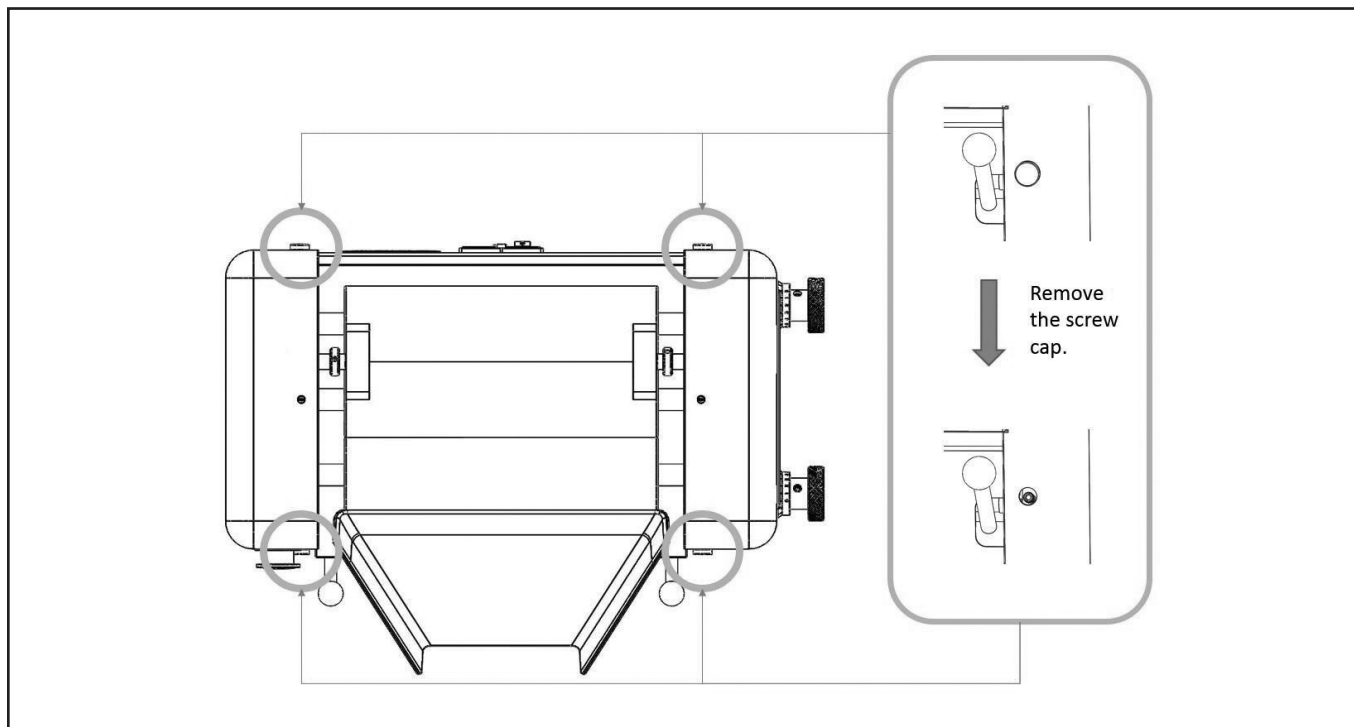
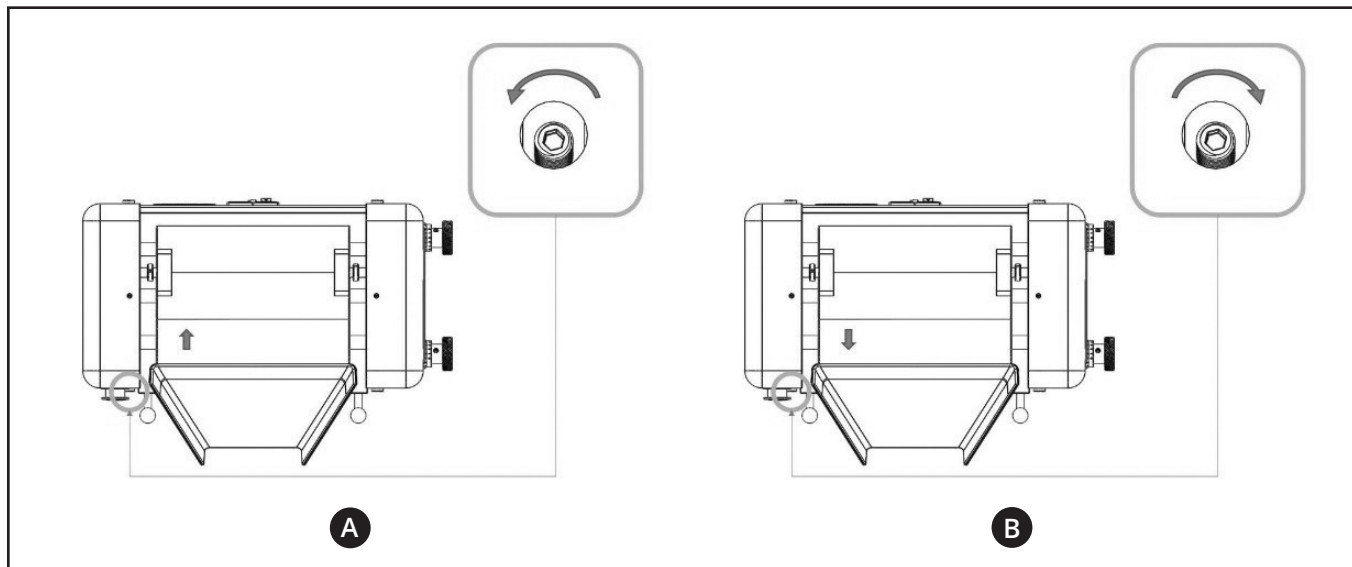
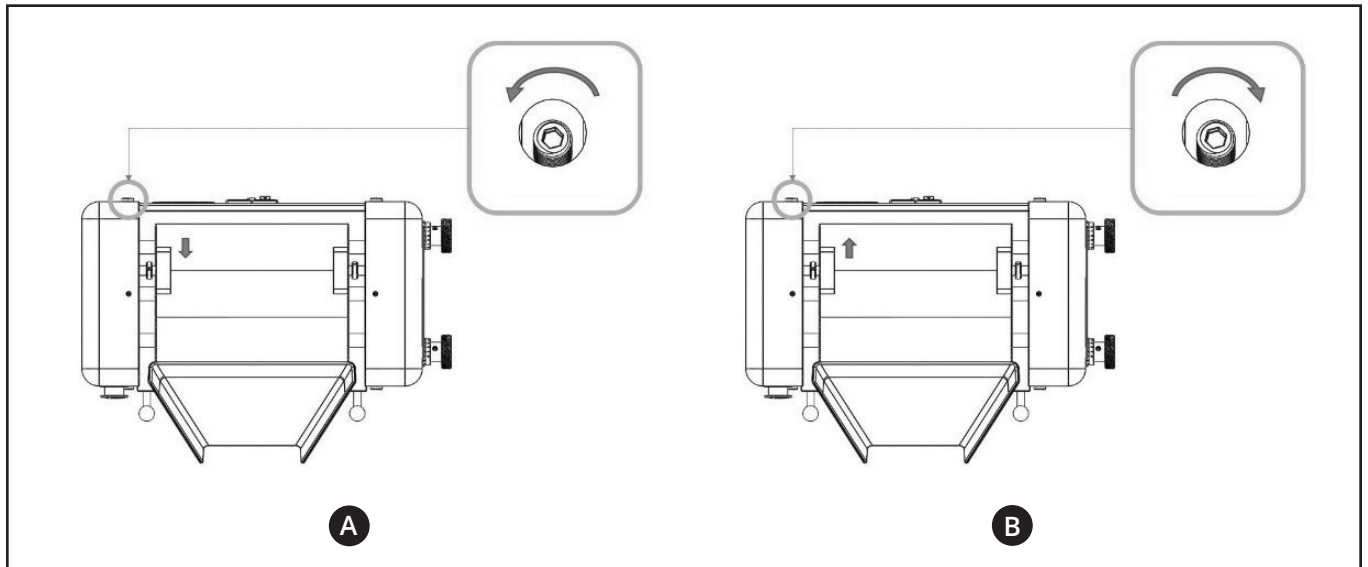

FIGURE 8 : Removing the Screw Caps for Calibration
FIGURE 9 : Left Front Gap Calibration. A) Decrease gap size
FIGURE 11 : Left Rear Gap Calibration.    A) Decrease gap size
4. Use the hex key provided to calibrate the roller gap setting. There are two holes covered by white screw caps on either side of the casing, front and rear, where you can insert the hex key (*see figure 8*). The two holes at the front of the mill are for calibrating the front gap (*see figure 9 and 10*), and the two holes at the rear of the mill are for calibrating the rear gap. Remove the screw caps with a screw driver. Turning the hex key clockwise will widen the gap. Turning the hex key counter-clockwise will narrow the gap (*see figure 11 and 12*).